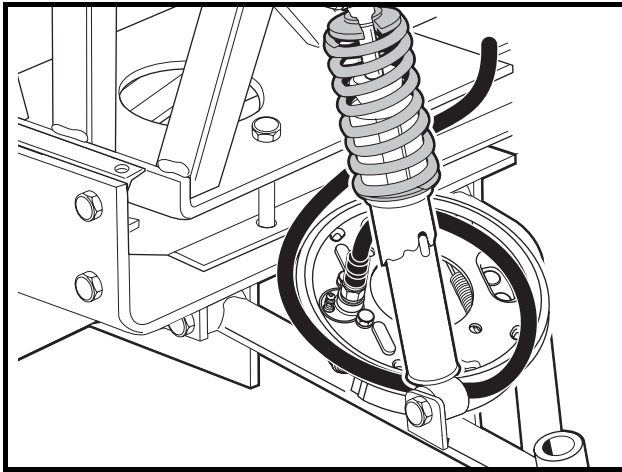

Figure 7-27 Rest Brake Cluster on A-arm
4. Rest the brake cluster on the A-arm as shown (**Figure 7-27, Page 7-15**). Ensure that there is no strain on the brake hose. **See following WARNING.**